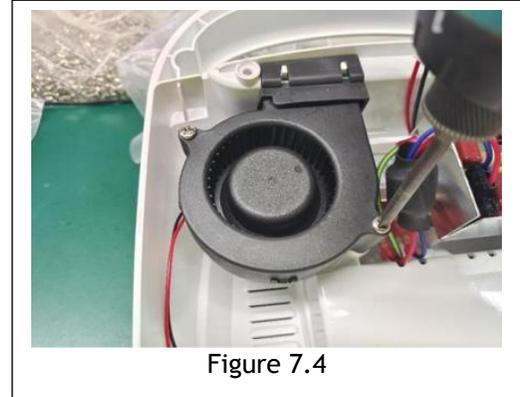

Figure 7.4
2. Using a M4 Cross head Screwdriver, remove the two Fan Retaining Screws securing the Fan to the system Bottom. **See Figure 7.4.**